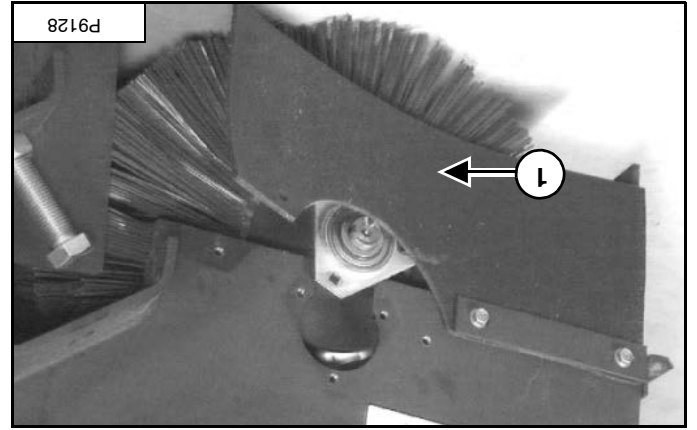

Figure 130
Install the rubber side cover (item 1) [Figure 130] (both ends). (If loosened.)